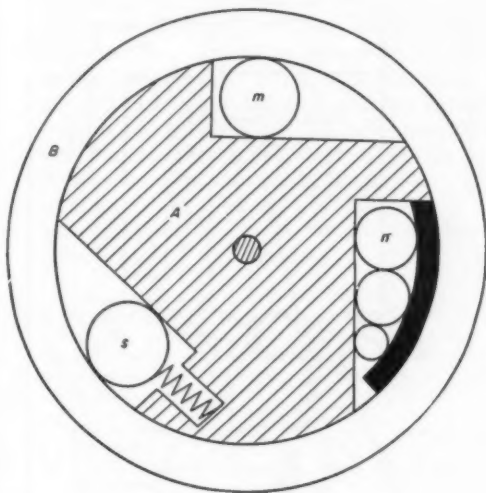

Fig. 19—Silent ratchet.
Instead of the use of pawls, the so-called "silent" ratchets may be considered. These, working upon the principle of wedging rollers or balls in tapered slots, or wedging eccentric blocks or "sprags" in uniform-width slots, provide smooth quiet action. Fig. 19. Backlash is reduced to a minimum by the use of springs to maintain continuous contact between the elements and both sides of the slot.
19. J. H. Billings—*Applied Kinematics*, D. Van Nostrand Company, 1955, Pages 297-306. (Fig. 19)